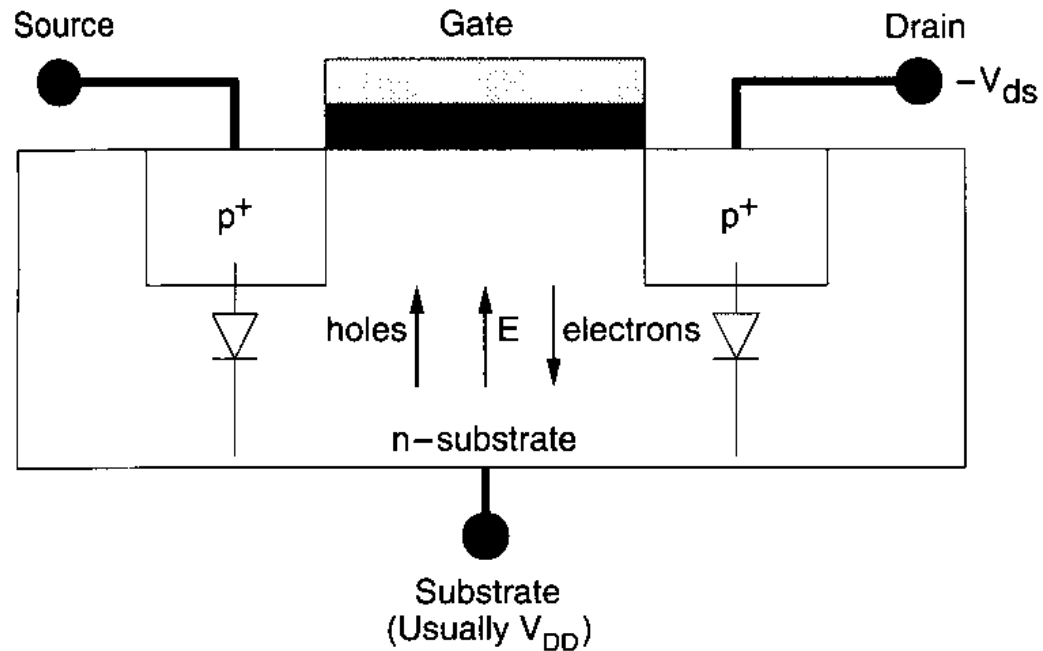

FIGURE 2.6 Physical structure of a pMOS transistor
- A reversal of n-type and p-type regions yields a p-channel channel transistor. (See Figure 2.6)